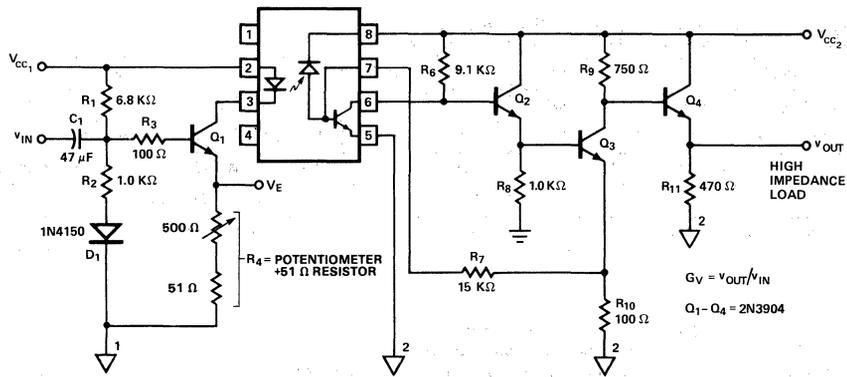

Figure 4. Recommended Isolated Video Interface Circuit
- When used in the circuit of Figure 1 or Figure 4;  $G_V = V_{OUT}/V_{IN}$ .
The application circuit in Figure 4 incorporates several features that help maximize the bandwidth performance of the HCPL-4562. Most important of these features is peaked response of the detector circuit that helps extend the frequency range over which the voltage gain is relatively constant. The number of gain stages, the overall circuit topology and the choice of DC bias points are all consequences of the desire to maximize bandwidth performance.